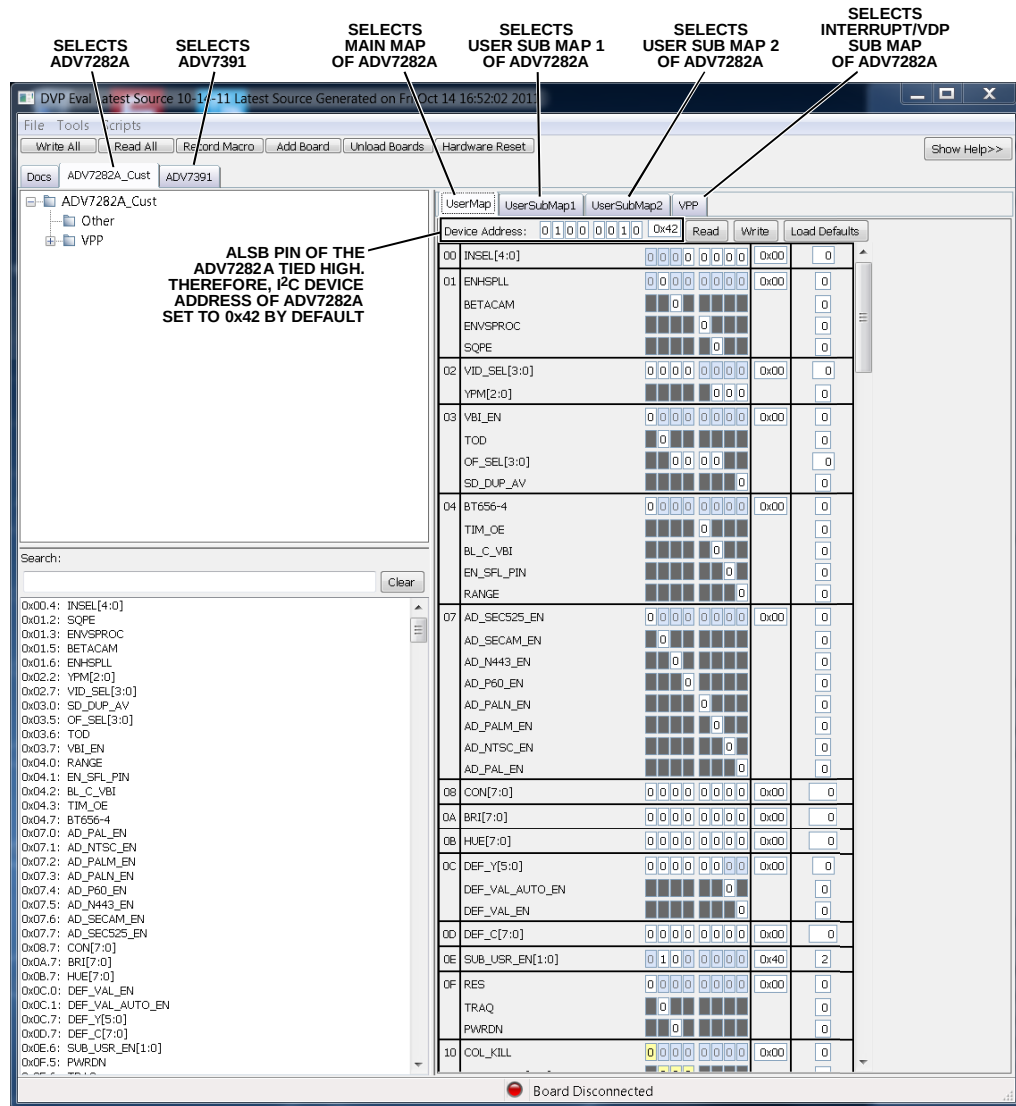

Figure 7. DVP Eval Software after Connecting the ADV7282A Evaluation Board
4. Click the **Load** button. A window similar to Figure 7 appears.